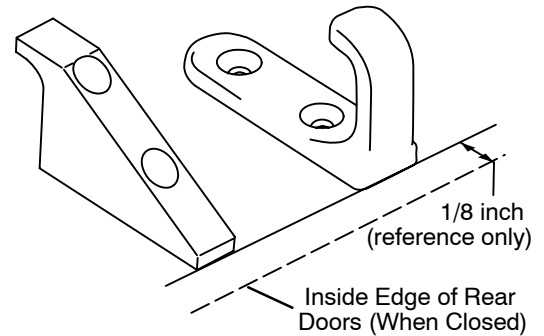

Figure 11 – Safety Hook Placement
11. Center the safety hook (Figures 11 & 12) on the cot safety bar. Be sure the hook is facing the front of the vehicle.